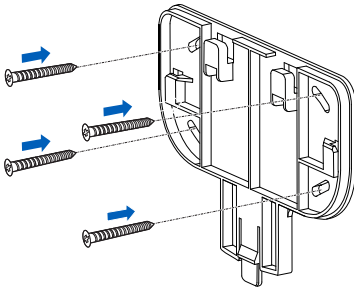

Figure 4
1. Attach the mounting plate to the mounting surface using the supplied screws (see **Figure 4**). If mounting on drywall/masonry, install wall anchors first.